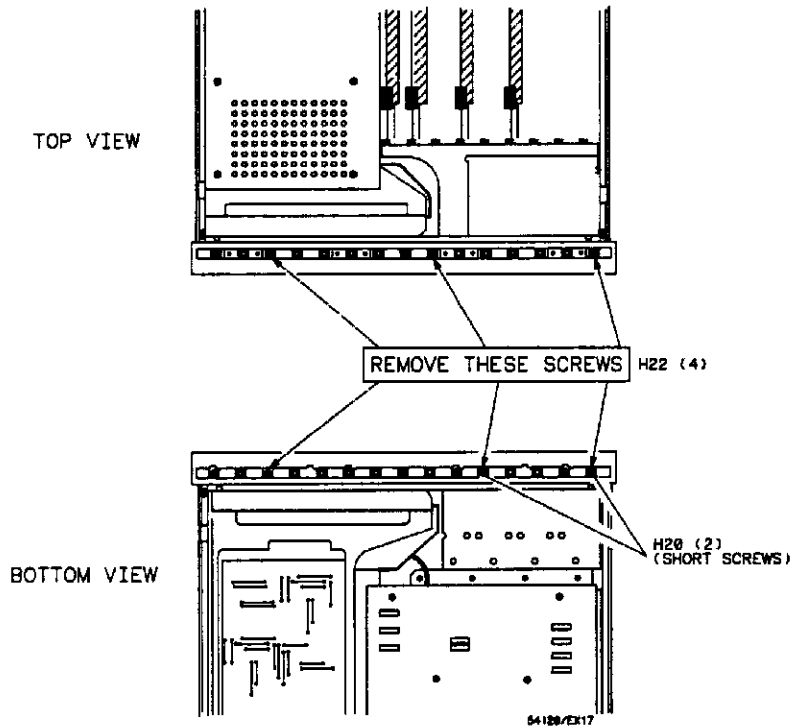

Figure 6A-4. Top and Bottom Front Panel Mounting Screws.
5. Remove six front panel screws as shown in figure 6A-4.